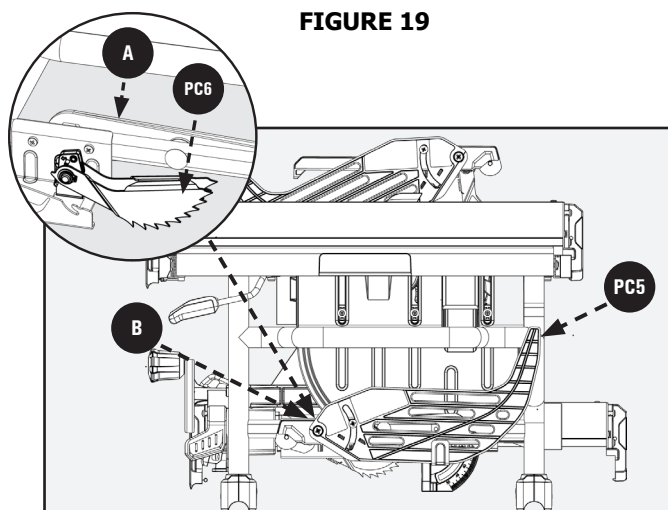

FIGURE 20
3. Detach the On-Board Wrenches **located on the Right Side of the Saw** behind blade guard storage in Figure 20 (A) by loosening and removing M8 Wing Nut.
Right Side Storage Figure 20: